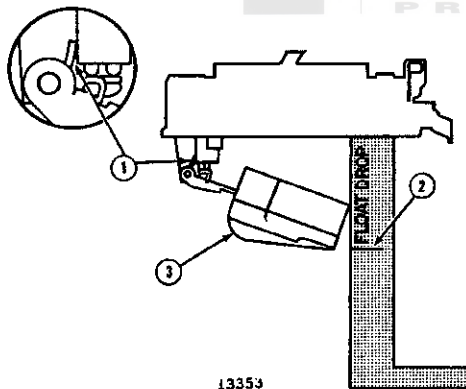

FIG. E-24—FLOAT DROP ADJUSTMENT
k. With air horn body held upright, measure distance from gasket to bottom of float pontoon at outer end. Use a $1\frac{1}{8}$ " [47,625 mm.] float drop gauge. Bend float tang, as required, to adjust float drop. See Fig. E-24.